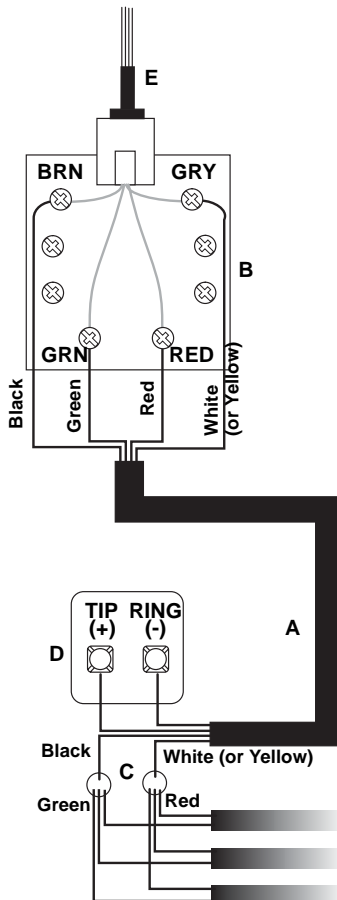

Figure 4. RJ31X Phone Wiring
1. Run a 4-conductor cable from the TELCO block to the RJ-31X (A in Figure 4).
2. Connect the 4-conductor cable wires to the RJ-31X (B in Figure 4).
3. Disconnect the Green and Red premises phone jack wires from the TELCO block and splice them to the 4-conductor cable Black and White (or Yellow) wires (C in Figure 4). Use weatherproof wire connectors for these splices.
4. Connect the 4-conductor cable Green and Red wires to the TELCO block TIP (+) and Red to RING (-) posts (D in Figure 4).
5. Insert the 8-conductor phone cord plug into the RJ-31X jack (E in Figure 4).